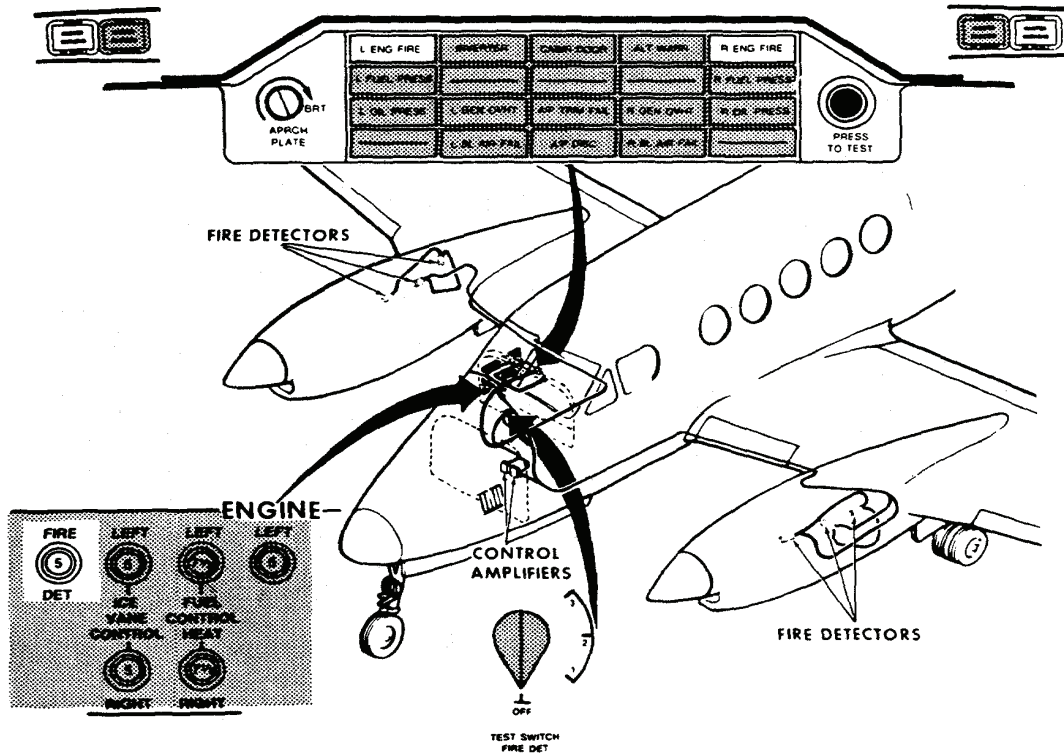

Figure 2-14. Engine Fire Detection System **T3 F3 ANG**
c. **Description T3 F3 ANG**. The ANG fire detection system, Figure 2-14, consists of three photoconductive cells for each engine; a control amplifier for each engine; two red warning lights on the